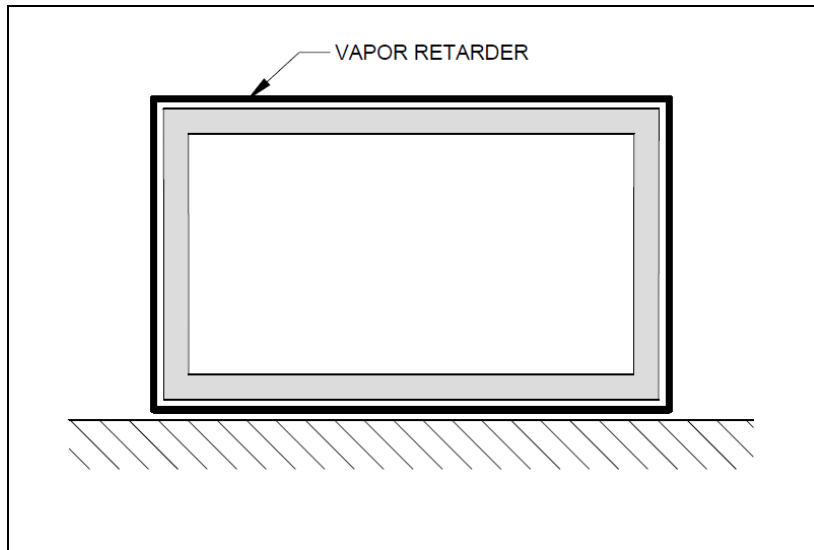

Figure 2: Conceptual Diagram of “Exterior Envelope System Method”
**Exterior Envelope System Method:** This method entails a vapor retarder system located on the exterior side of the building’s structural system. The vapor retarder system “encapsulates” the building by being located on the outside of the exterior walls’ insulation layer, under the floor and over the roof’s insulation layer. See Figure 2 for a conceptual depiction of this method.